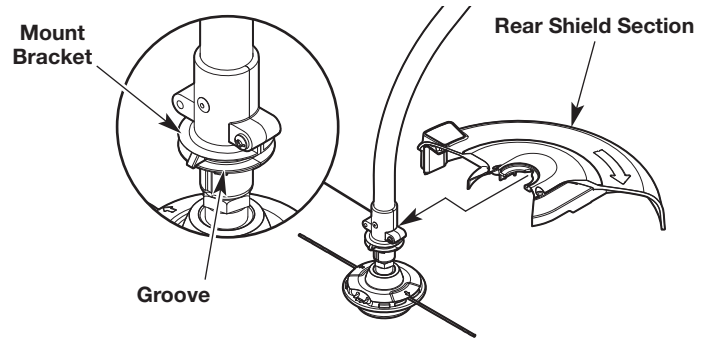

Fig. 1
1. Slide the rear shield section onto the back of the mount bracket (Fig. 1). The shield section should slide into the groove (Fig. 1). This may require a firm push.